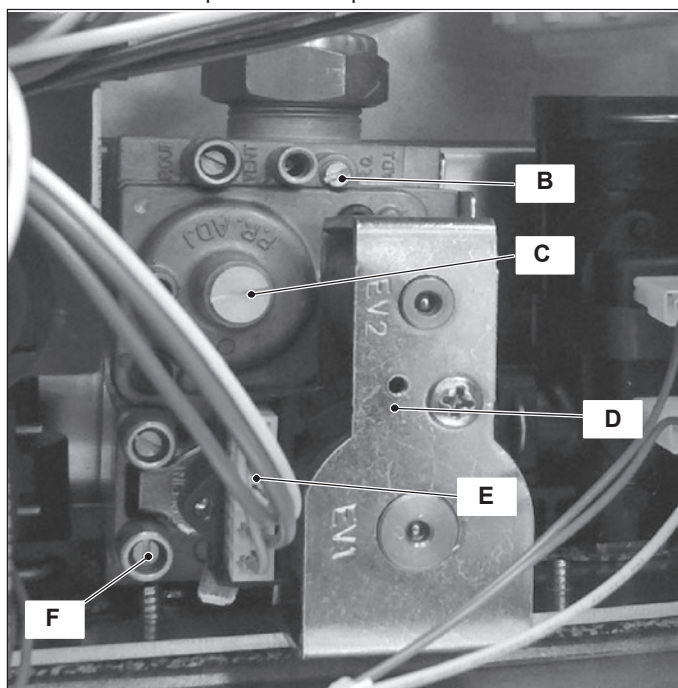
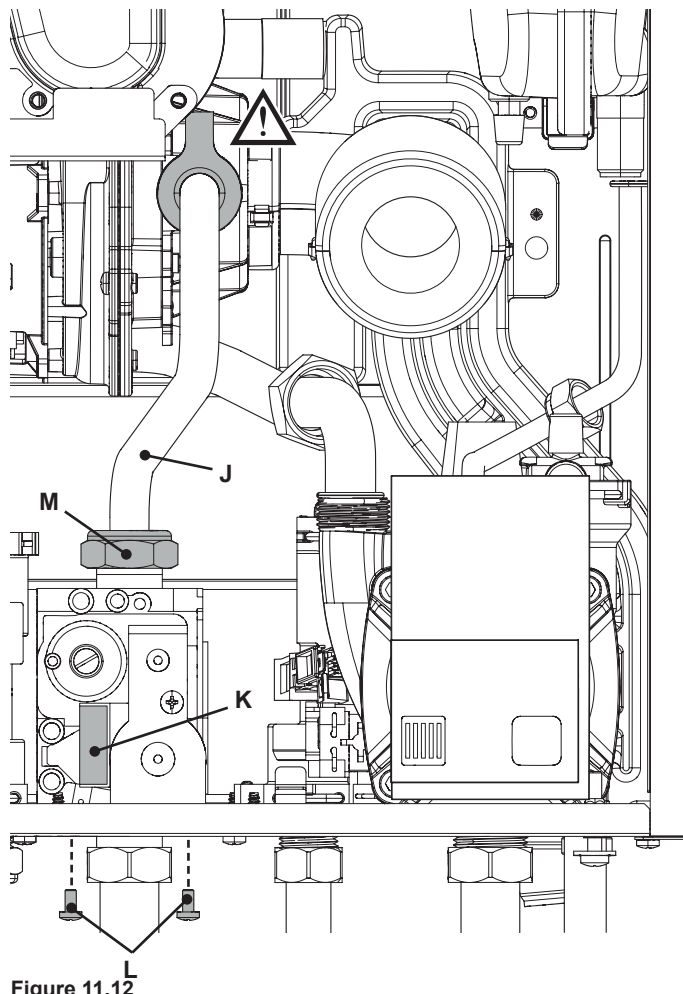

Figure 11.2
Figure 11.12
(Figure 11.2)
- 3 Loosen the internal screw on the Inlet Pressure Test Point "F" (Figure 11.2) of the Gas valve and connect a pressure gauge using a suitable hose.
- 10 Disconnect the pressure gauge and close the Inlet Pressure Test Point "F" (Figure 11.2).
To adjust the CO₂ % value remove the brass plug by unscrewing it and rotate the Allen key screw Ø 4 mm "C" (Figure 11.2) (by rotating it clockwise the CO₂ % increases).
To adjust the CO₂ % value rotate screw "B" (Figure 11.2) (by rotating it clockwise the CO₂ % decreases).
- 27 After adjustment fit the protective brass plug "C" (Figure 11.2).
- 2 Disconnect the electrical connector "E" (Figure 11.2).
- 2 Disconnect the connector "K" (Figure 11.12), see also connector "E" (Figure 11.2).
- 4 Unscrew the connector "M" (Figure 11.12) and remove the pipe "J".
- 5 Unscrew the screws "L" and remove the valve (Figure 11.12).